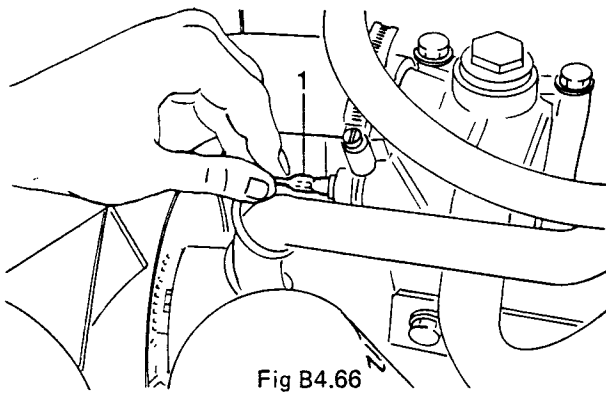

Fig B4.66
- (11) Refer to Fig B4.66. Disconnect the wire (1) from the coolant temperature transmitter. The transmitter is located in the thermostat housing on the left hand upper side of the engine just above the water pump and oil filter.